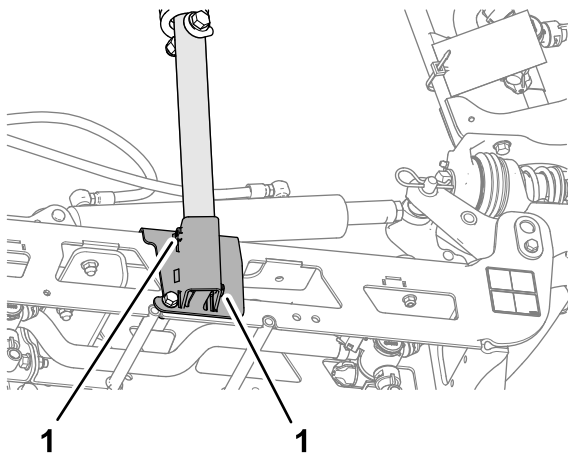

Figure 116
3. Loosen the 2 setscrews that secure the lower cradle tube (Figure 116).